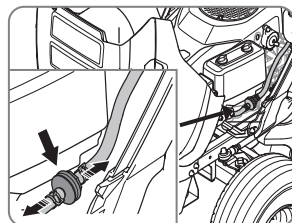

Fig. 39
4. Pull the fuel filter from the hose ends (Fig. 39). A small quantity of fuel can leak.